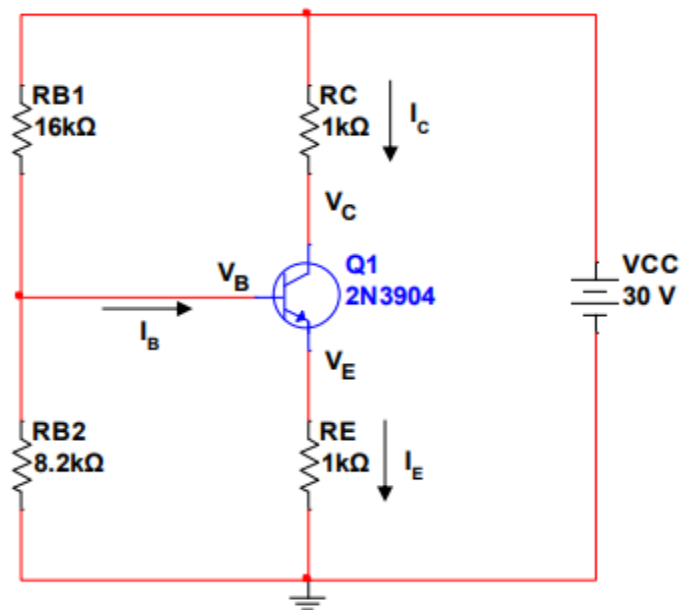

Figure 1.1 – Beta Stabilizing Network
1. **Before building** the circuit in **Figure 1.1**, **measure** the exact resistances of **RC**, **RE**, **RB1**, and **RB2** using the DMM. **Record** these values.
2. **Build** the circuit in **Figure 1.1** using transistor 2N3904.